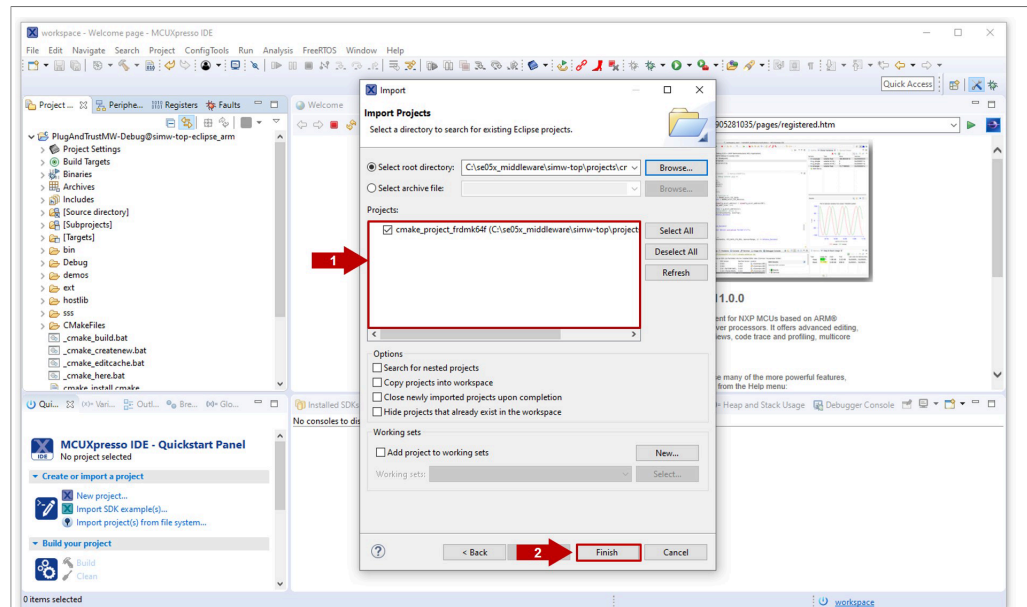

Figure 35. Import FRDM-K64F in workspace
- After selecting `C:\se05x_middleware\simw-top\projects` folder, the `cmake_projects_frm64f` project should be visible in the Projects area. Click *Finish* button to import this project into your workspace as shown in Figure 35: